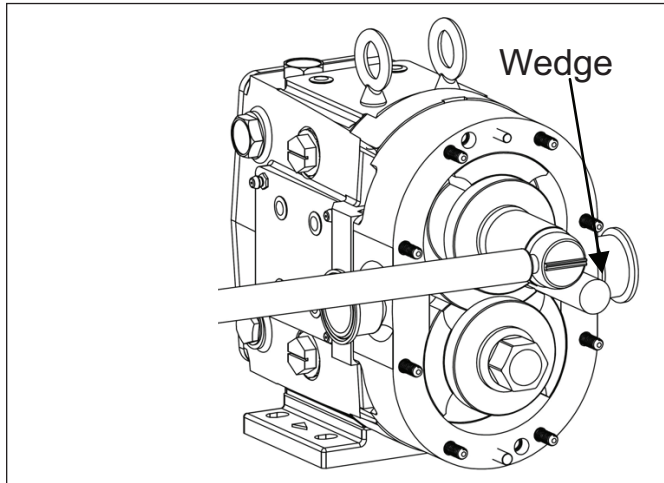

Figure 24. Removing Rotor Nuts
- Remove the rotor nut assembly using the appropriate size wrench and a non-metallic wedge to keep the rotors from moving (Figure 24). Remove the nuts, Belleville washers, and both rotor nut o-rings.